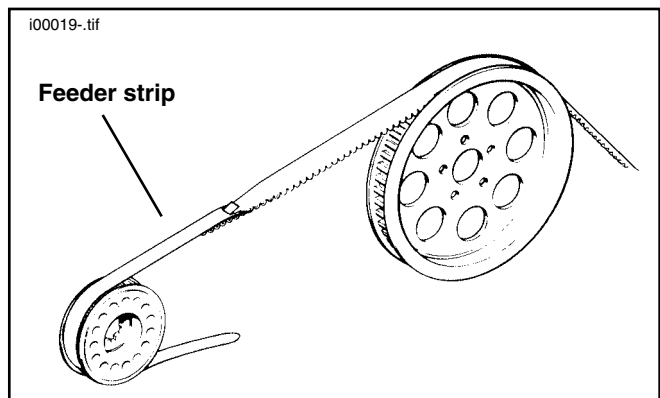

Figure 2. Belt Installation
6. See Figure 2. Install feeder strip on emergency belt. Feed strip around transmission sprocket in a counterclockwise direction over frame cross support.